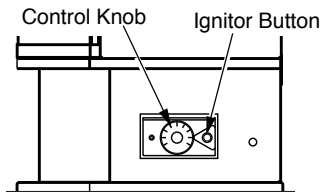

Figure 18 - Control Knob and Ignitor Button Location
4. Wait five (5) minutes to clear out any gas. Then smell for gas, including near the floor. If you smell gas, **STOP!** Follow "B" in the safety information, column 1. If you don't smell gas, go to the next step.
5. Turn control knob counterclockwise  to the PILOT position. Press in control knob for five (5) seconds (see Figure 18).